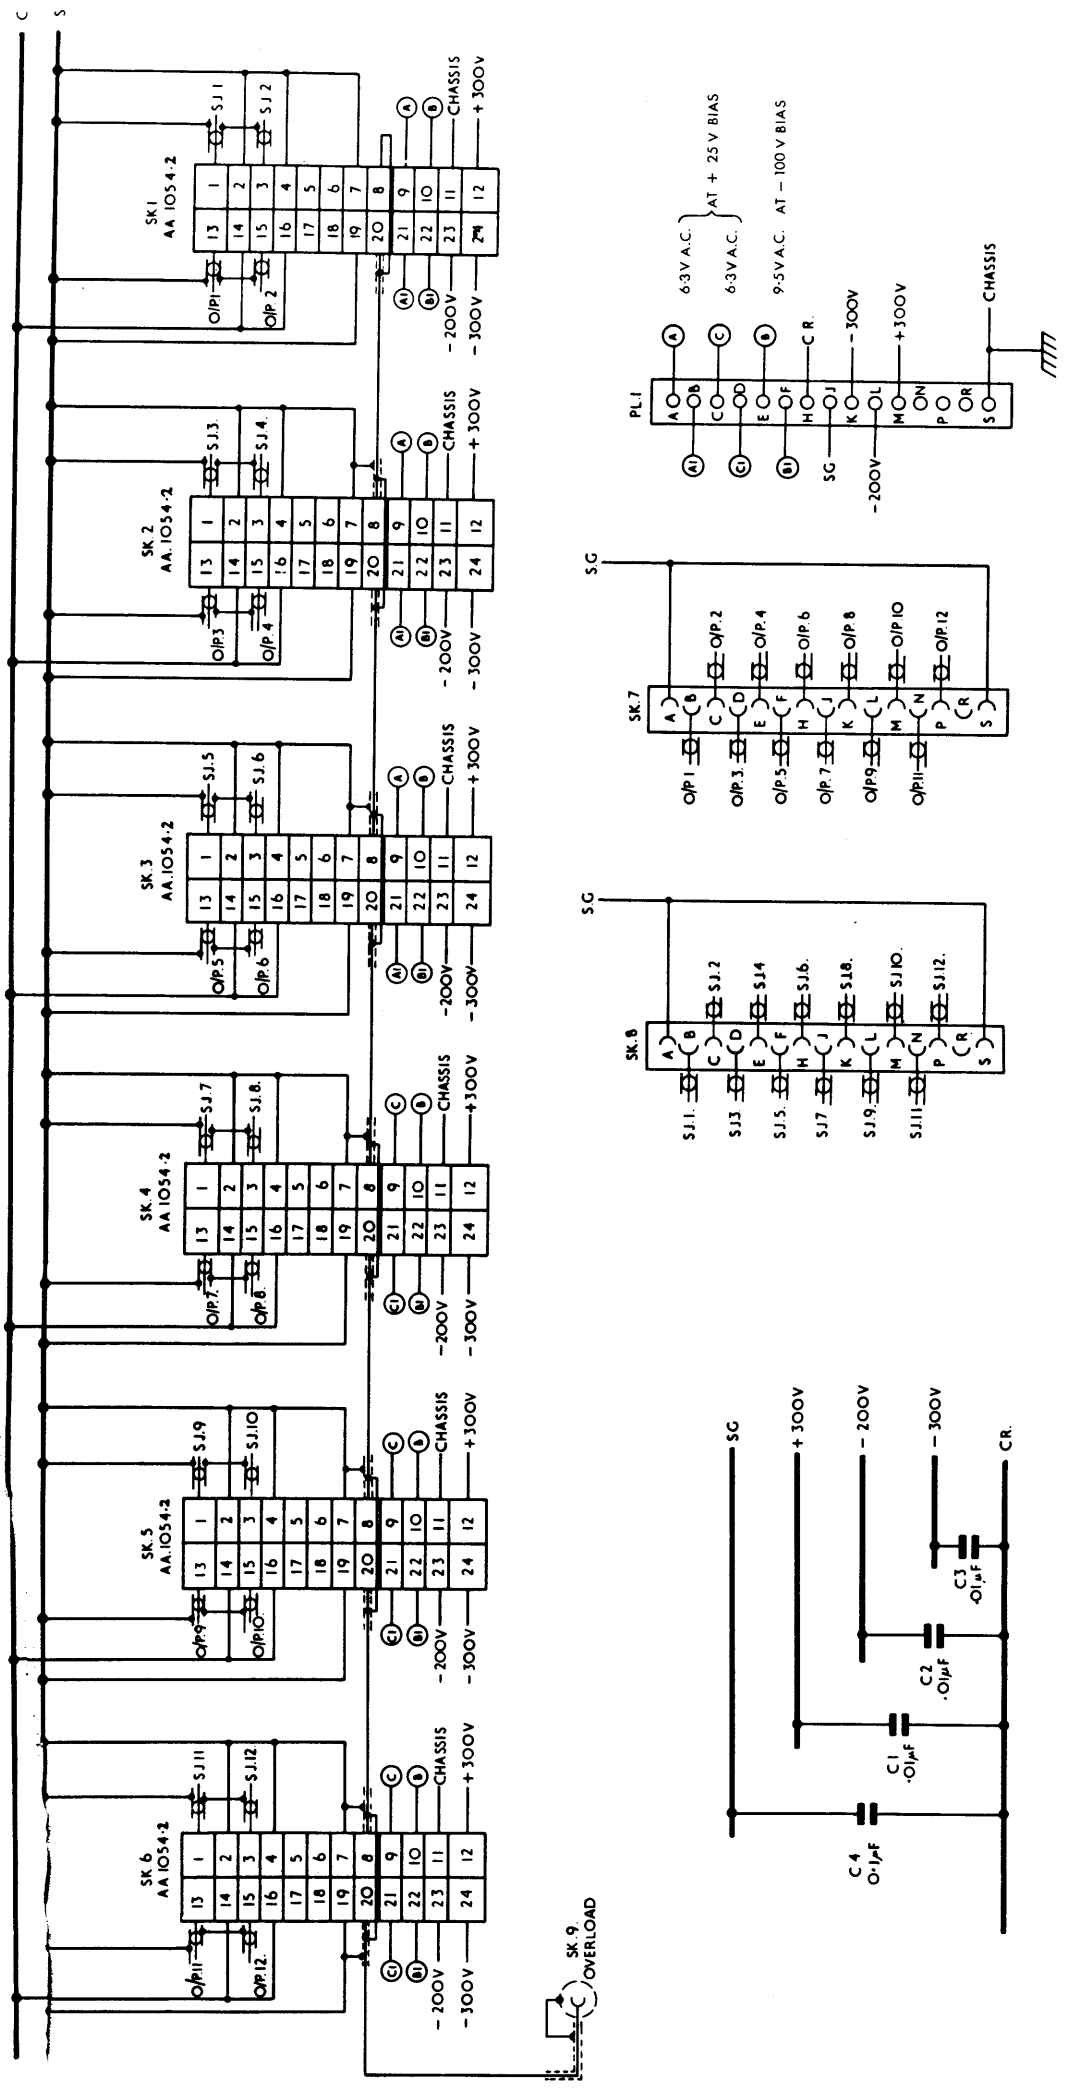

Fig. 5 - TX1055. 2 Circuit Diagram
- (e) Twin amplifier test set as shown in Fig.5.